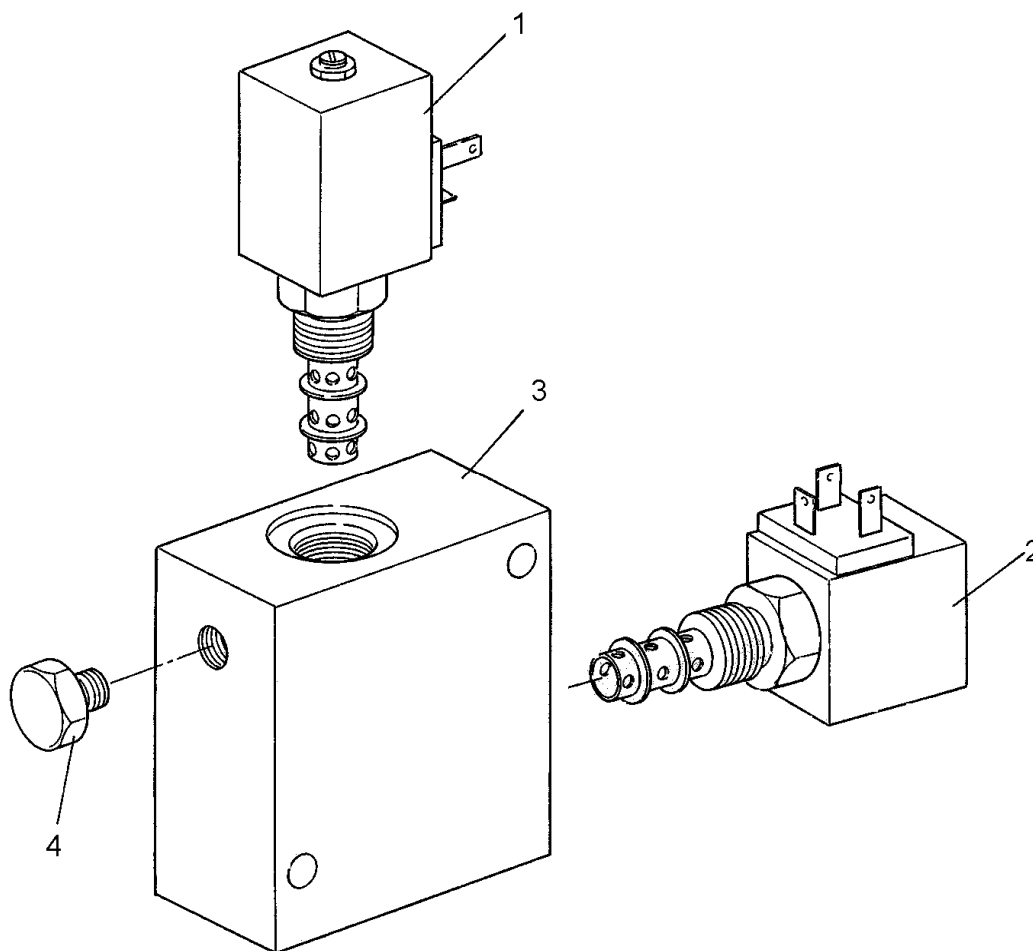

Fig. 7C.31. Exploded View of Gear Shifting Valve
30. DISASSEMBLY (Refer to Fig. 7C.31)